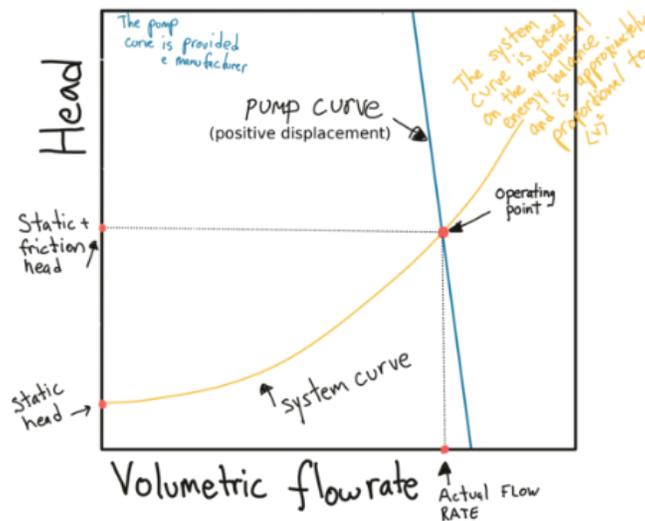

Figure 11: Pump and system curves with operating point based on field testing.
- For pumps, check the operating point using flow and pressure readings, and plot with the manufacturer’s pump curve, as shown in Figure 11.